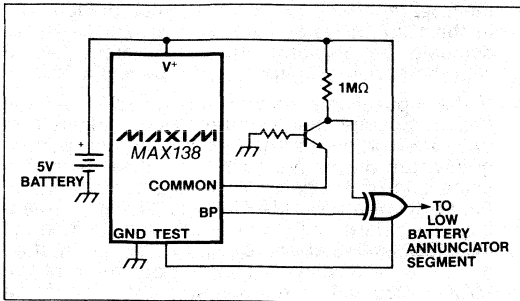

Figure 6. Low Battery Detector and LCD Segment Drive
Since the voltage between Common and  $V^+$  is between 2.95V and 3.15V until the voltage between  $V^+$  and  $V^-$  falls to less than 4V, a simple low battery detector can be made using transistor voltage detector as shown in Figure 6. When Q1 is off the Low Battery segment is driven in phase with the backplane and is off. When Q1 turns on, the Low Battery LCD segment becomes visible. Q1 turns on when the voltage at the base of Q1 is one base-emitter voltage more positive than COMMON voltage.
4. If the input signal polarity is reversed from the desired polarity, then use the "Minus" segment to drive the vertical bar of a plus sign, and permanently turn on the horizontal bar of the plus sign using one of the decimal point driver circuits of Figure 6. When the MAX138/139/140 measures a negative polarity, a "+" will be displayed. When the MAX138/139/140 measures a positive polarity, then a "-" will be displayed. (Normal operation of the MAX138/139/140 is no polarity indication for a positive input, and a "-" sign for a negative input.)